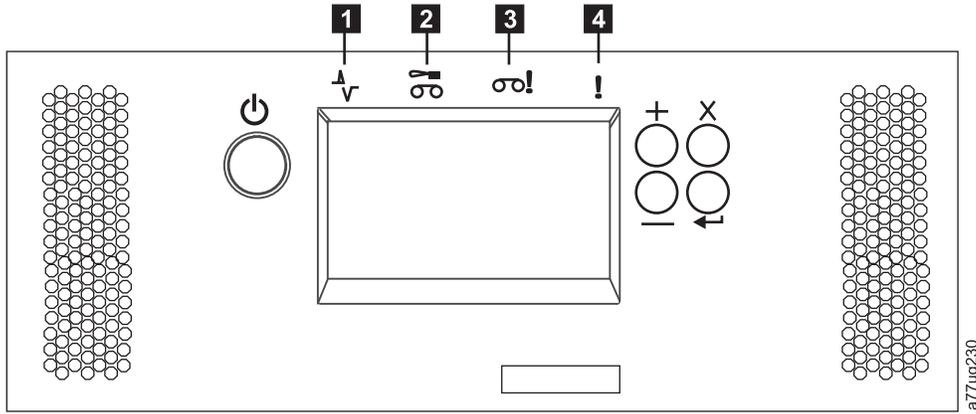

Figure 10-23. Library front panel LEDs
- 1) After power up, the Ready/Activity LED (**1** in Figure 10-23 on page 10-24) will turn ON.
- 1) The Error LED (**4** in Figure 10-23 on page 10-24) will turn ON.
- 1) The replacement library enclosure will power up with the Ready/Activity LED (**1** in Figure 10-23 on page 10-24) ON.
- 1) The Error LED (**4** in Figure 10-23) will turn ON. This indicates that the Library Controller Card from the defective library is not functioning properly.
- 1) The replacement library enclosure will complete with the Ready/Activity LED (**1** in Figure 10-23 on page 10-24) ON.